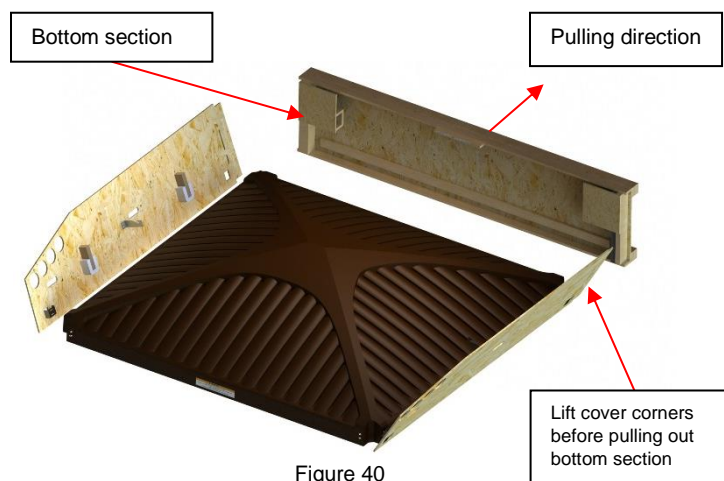

Figure 40
- 22) Pull the bottom section out, making sure that it does not interfere with the cover. If it does, gently lift the cover near the bottom section and continue pulling it out. (Figure 40)